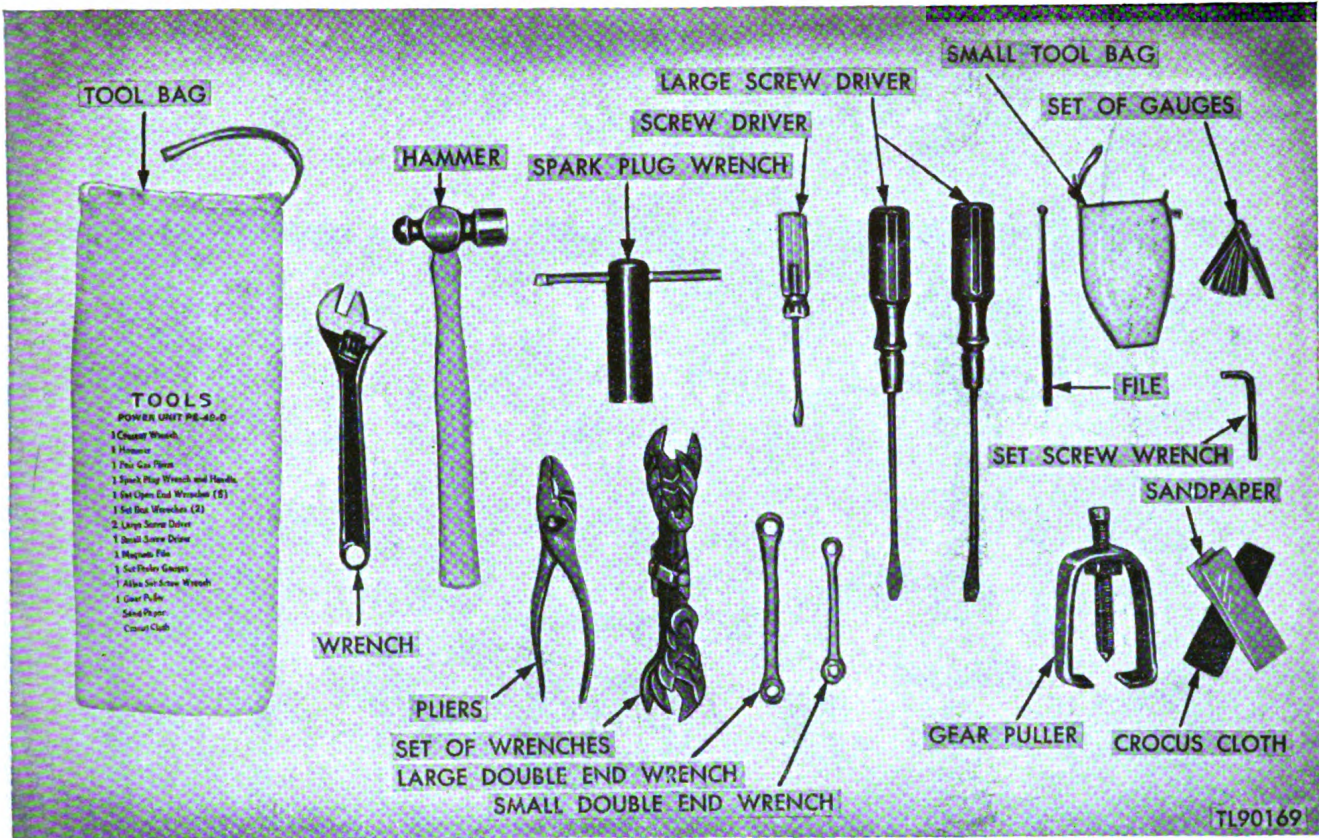

Figure 19. Tools for Power Unit PE-49-D or PE-49-F.
b. TOOLS FOR POWER UNIT PE-49(*) (figs. 19 and 20). A cloth toolbag (fig. 20(900)) with a list of contents printed on the bag, contains the following tool equipment: